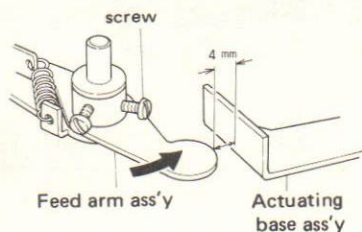

Fig. 2
- 1) Secure the tonearm to the tonearm rest, and after clamping with the clamp screw so that the clearance between the leading arm assembly and the operating tonearm is brought to about 4 mm, proceed with the adjustments outlined in step 1. (Refer to Fig. 2)